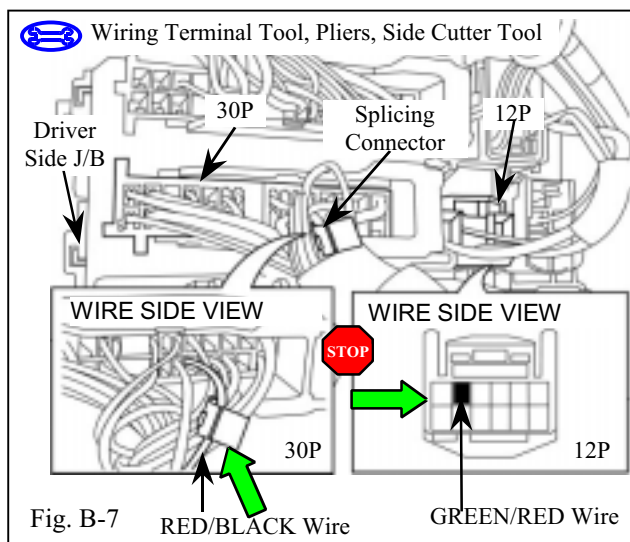

Fig. B-7
➔ 15. Locate and disconnect the 30P and 12P connectors from the front of the driver side J/B. (Fig. B-7)
16. Locate the 30P connector wire in the bottom row, tenth space from the left, and attach the V5 harness' RED/ BLACK wire with one splicing connector. (Fig. B-7)
17. Reconnect the 30P connector. (Fig. B-7)
18. Locate the 12P connector's GREEN/ RED wire in the top row, second space from the left. Using a pick, release and pull out the terminal for the GREEN/ RED wire. (Fig. B-7)
20. Reconnect the 12P connector. (Fig. B-7)